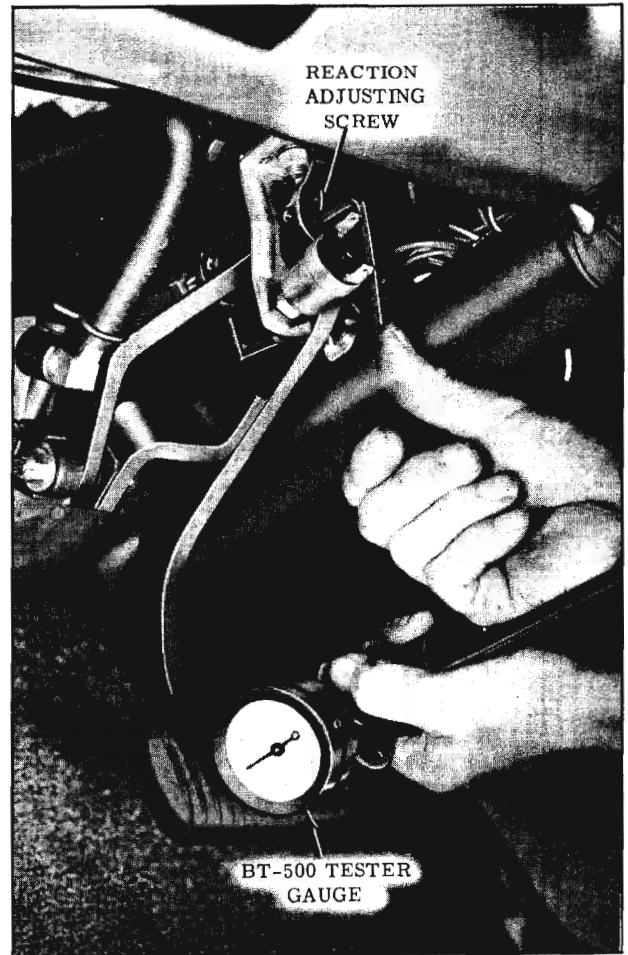

Fig. 7-136 Adjusting Reaction
3. Start engine and apply 30 lbs. load as shown in Fig. 7-136.
4. Gauge should register 345 lbs.  $\pm$  15 lbs. If necessary to adjust, loosen the set screw on the side of the reaction valve and adjust as shown in Fig. 7-136.
1. Turn reaction valve adjusting screw OUT if pedal feel is too hard. (Fig. 7-136)